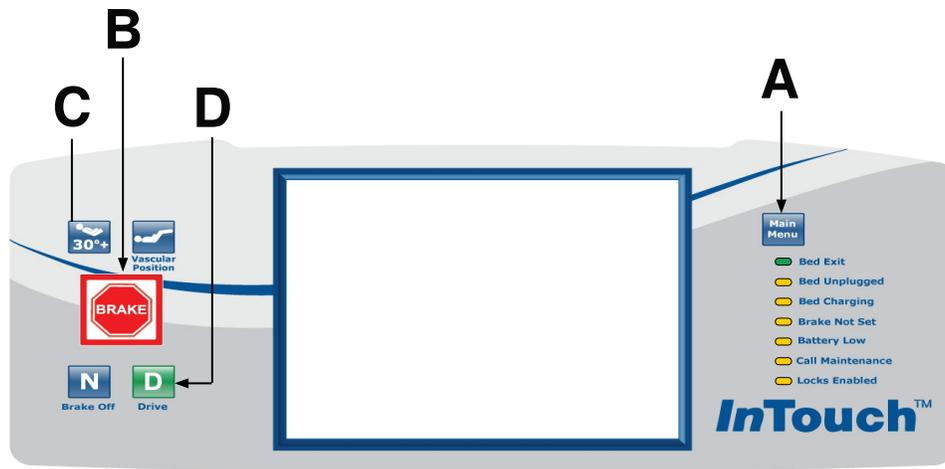

Figure 3 – Accessing the configuration menu
2. Push and hold the **Main Menu** button (A) located in the upper right corner of the footboard control panel (Figure 3). Continue to hold the **Main Menu** button while executing steps 3-5.
3. Push and hold the **Brake** button (B) for 5 seconds and then release (Figure 3).
4. Push the **HOB 30+** button (C) once and release (Figure 3).
5. Push the **Drive** button (D) once and release (Figure 3).